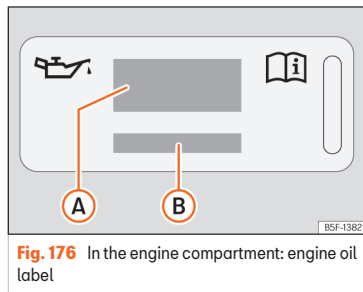
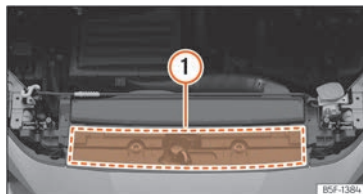

Fig. 176 In the engine compartment: engine oil label
Fig. 177 In the engine compartment: area where the engine oil label is located
Key to the >>> Fig. 176:
If the engine oil has to be topped up, use one of the oils shown on the label >>> Fig. 176. The label with the prescribed standard is located at the front of the engine compartment >>> Fig. 177 (1). If you use the recommended engine oil, you can top up the oil as often as necessary.
cations is missing >>> Fig. 176, please contact